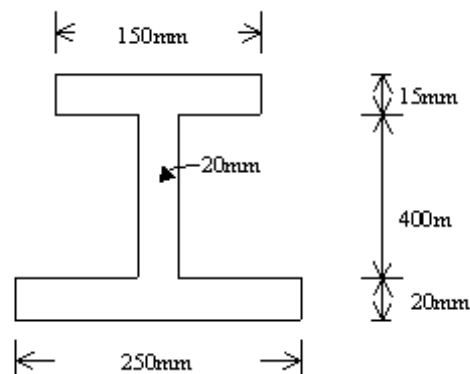

Figure 3b
- (b) A rolled steel joist of I section has dimensions as shown in Figure 3b. This beam of I section carries a u.d.l of 50 kN/m on a simply supported span of 10m. Calculate the stresses produced due to bending. [4+12]